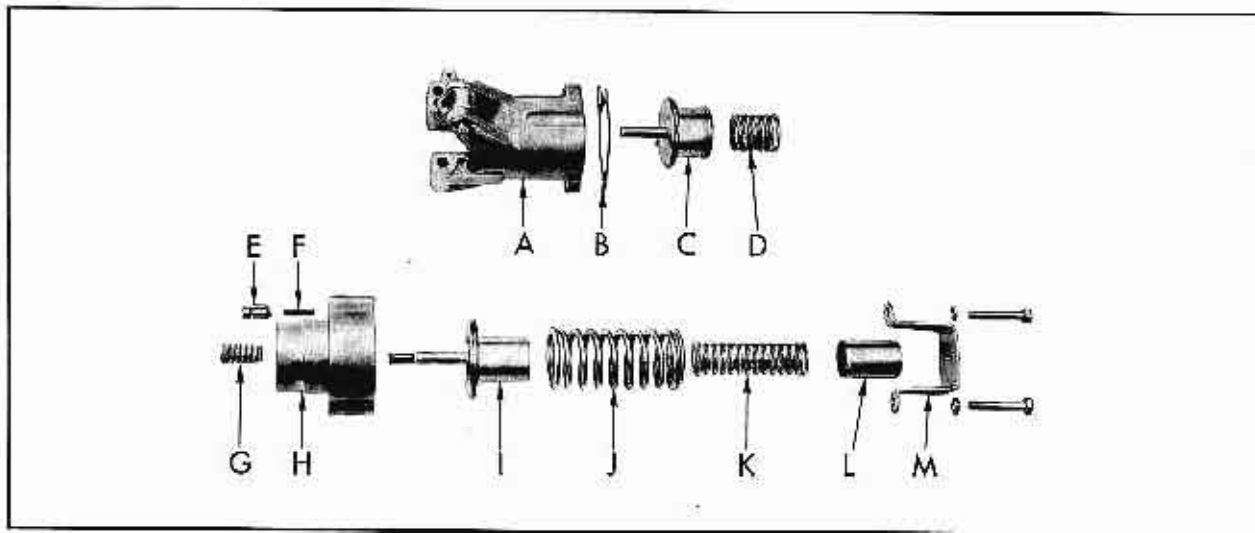

Fig. 14-62 Rear Servo - Disassembled
**(23) Disassembly, Inspection and Assembly of Rear Servo****a. Disassembly (Fig. 14-62)**